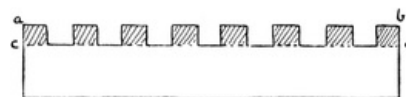
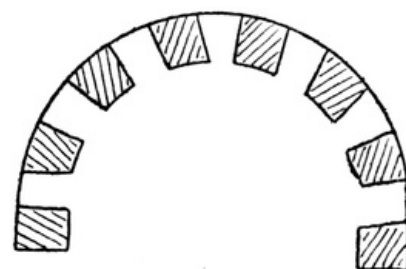

FIG. 3a
FIG. 3b
(3) Wherever it is necessary to join curved edges, the flange must be cut as in Fig. 3a, flange *a b c d*. Fig. 3b shows paper curved and flanges bent down ready for pasting.